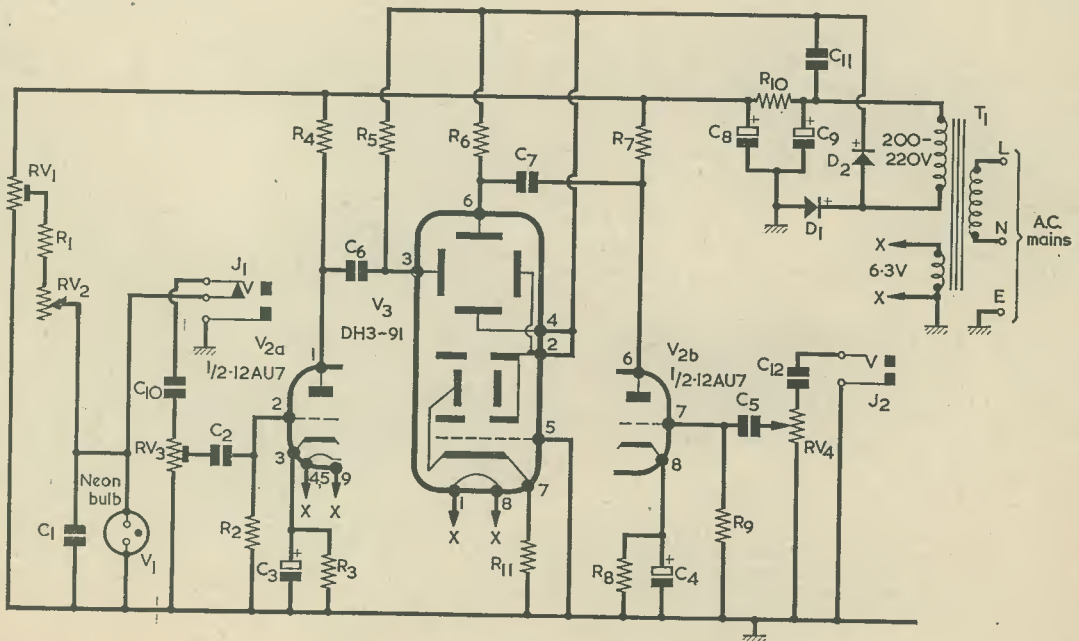

Fig. 2. The circuit of the miniature oscilloscope
In the full circuit diagram of Fig. 2 the neon relaxation oscillator circuit is given by RV1, R1, RV2, C1 and V1. Here, RV1 is the linearity control and it functions as a potential divider applying a preset voltage to R1 and RV2. The latter is the horizontal frequency control. RV1 is set so that, at the highest frequency selected by RV2 (where it inserts minimum resistance into circuit) the neon is just below the 'splash' point just mentioned. In the prototype, the slider of RV1 was set nearly at the h.t. positive end of its track.
The tube itself, a DH3-91, is ideal for this type of project owing to its small size, being only about 4in. long. Asymmetrical deflection was used, and as the brightness was about right for normal viewing and no focusing was necessary (the tube is a self-focusing type) no e.h.t. potential chain was needed. No centralising control is required, the spot being comfortably central provided that C6 and C7 have very low leakage. The pin connections to the tube shown in Fig. 2 cause the usual X and Y plate functions to be transposed. (In normal usage, the X plates are pins 4 and 6, and the Y plates are pins 2 and 3).²
2. The true X plates of the DH3-91 are intended for symmetrical deflection and the true Y plates for asymmetrical deflection. Because of this difference, and since the electrode connections employed in Fig. 2 give the required centring in practice, these connections should be employed (although the use of the X and Y plates for their intended function could, of course, be checked out experimentally if desired). The DH3-91 is a current Mullard c.r.t. and may be purchased through radio retailers in the normal manner.—Editor.